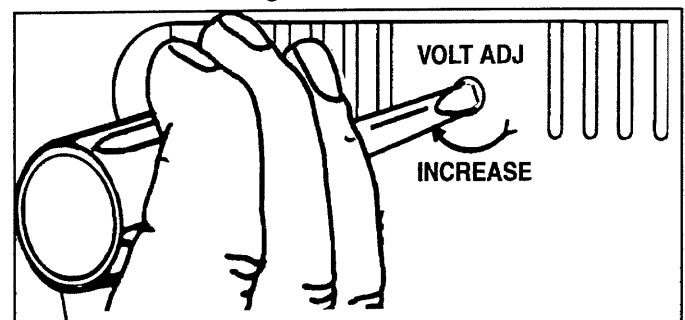

Figure 2. Adjusting Regulator Voltage Setting.
4. If an overcharged battery symptom exists and the voltage cannot be adjusted into the normal range (27V to 29V) by turning the adjusting screw (Figure 2) start the engine and turn on electrical loads to take about 50-100 amps from the alternator. Check voltage between regulator "BAT" and "GND" terminals. Compare this reading with voltage across the battery. If regulator voltage is more than 1V below battery voltage, check and repair connection and ground wires, between battery and regulator. If voltage still cannot be adjusted, replace the regulator and check alternator field for shorts or grounds.